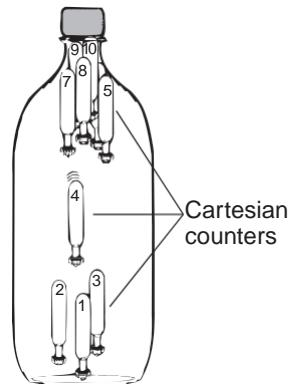

Figure 5.
3. **Cartesian Counters and Messages.** Place several numbered divers together in one bottle, but all with different densities, so they descend in order—1, 2, 3 . . . (or letter the divers to spell out a secret message!) See Figure 5.